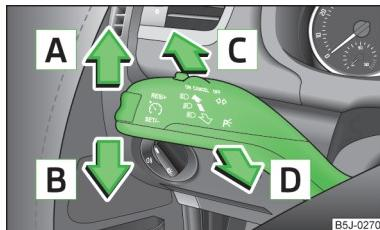

Fig. 42
- › At the same time, pull the turn signal light stalk » Fig. 42 on page 58 towards the steering wheel, push it downwards, and hold it in this position.
- › At the same time, pull the turn signal light stalk » Fig. 42 on page 58 towards the steering wheel, push it upwards, and hold it in this position.
Control stalk positions » Fig. 42.
» Pull the turn signal stalk » Fig. 42 on page 58 upwards or downwards - the side light on the right or left side of the vehicle is switched on.